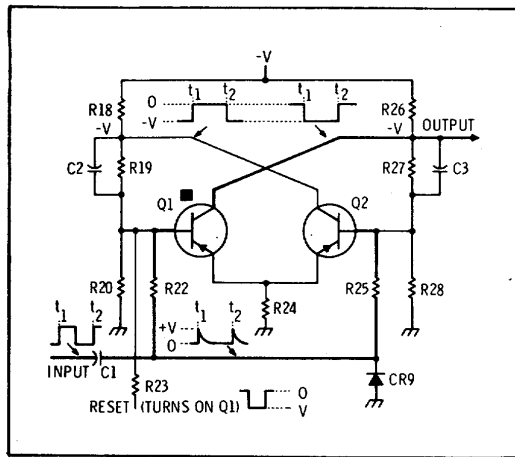

Figure 8-6. Basic Flip-Flop Circuits.
**8-26. Flip-Flop.** The flip-flop is a bistable two-transistor circuit in which one transistor conducts, holding the other cutoff. Each input pulse causes a reversal of stage; the cutoff transistor is turned on and the conducting transistor is turned off. In the flip-flop shown in Figure 8-6, Q1 is conducting heavily; its collector voltage is only slightly negative and a near-zero voltage is supplied to the base of Q2 (R27-R28 junction). The voltage drop across R24 produces a sufficiently negative voltage at the emitter of Q2 to hold Q2 cut off. With Q2 cut off, the R18/R19/R20 divider delivers a negative voltage to the base of Q1 to keep it conducting.